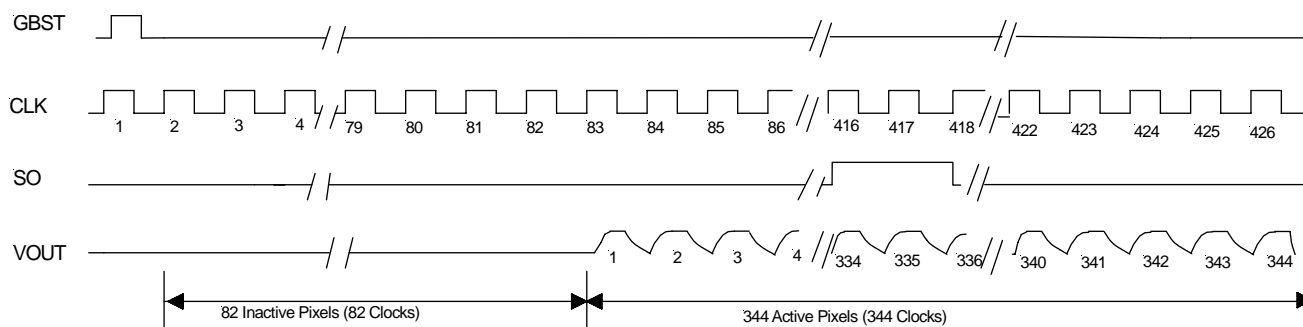
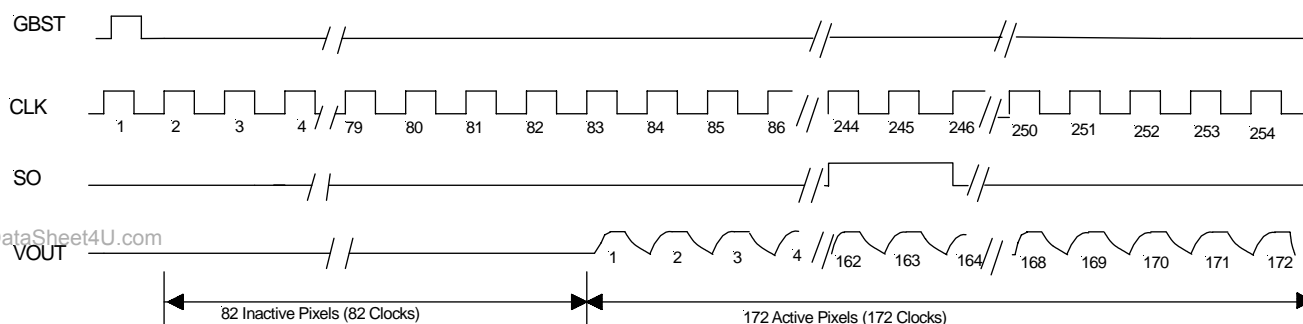

Figure 1: Overall Timing Diagram for the 600dpi Mode
Figure 2: Overall Timing Diagram for the 300dpi Mode
- (1) The clocks, CP and SP are compatible with CMOS clock drivers.
- (2) FREQ is the clock frequency and PRATE is the pixel sample rate.
- (3) Minimum values are not specified because it will be determined by the maximum TINT value. See Note 4.
- (4) TINT is the line scan read time, which depends on the interval between the SP entries. The minimum time is determined by  $(1/\text{clock frequency}) \times (5160 + 150)$  pixels. Note that there are a few extra pixels used to determine the typical line time of 820μsec @ 3.0MHz PRATE (see Figure 1). There are 55 clocks required to transfer and reset the photo-sites before the video can be scanned out. The longest integration time is determined by the degree of leakage current degradation that can be tolerated by the system. A 10ms maximum is a typical rule-of-thumb. An experienced CIS user can use his discretion and determine the desired tolerance level for the given system.
- (5) The definition for the symbols used in the ratio is defined in Figure 1. A duty cycle of exactly 50 percent is recommended to maintain equal pixel duration between odd and even pixels.
Figure 1 and Figure 2 detail the timing of the CLK, GBST, Vout, and SI/SO signals in further detail, which have the same timing requirements for both the 600 and 300dpi modes. In Figure 1, note that Pixel 83 is the first active pixel because the first 82 pixels are dummy pixels.